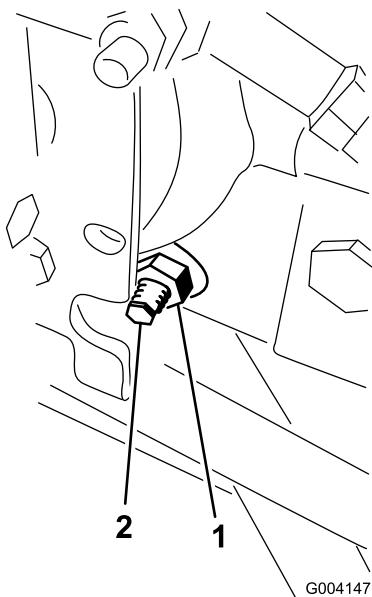

Figure 56
3. On the right side of the hydrostat, loosen the locknut on the traction-adjustment cam (Figure 56).